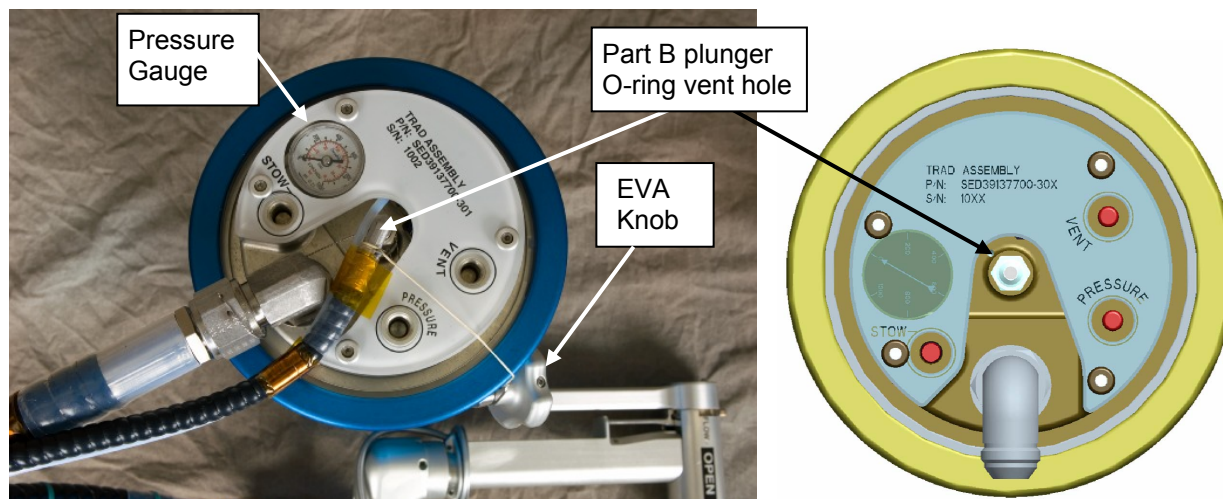

Figure 2 - T-RAD Cover Plate
11. Inspect entire top surface of T-RAD and interior of MLI cover for leakage, paying special attention to the Part B plunger O-ring vent hole (figure 2)